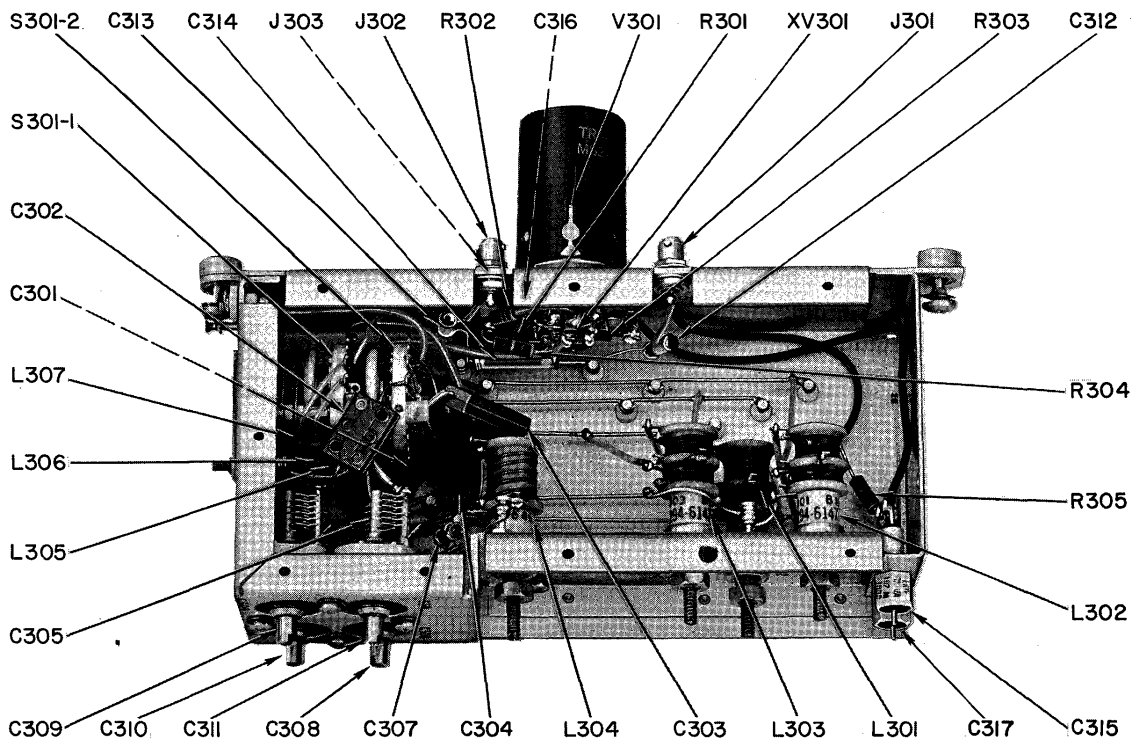

Figure 5-36. High-Frequency Oscillator, Location of Parts
*b.* ACCESS.—The HF oscillator is located in the lower converter deck. Raise the upper deck to reach the top of the oscillator, or tilt the entire converter drawer for access to the bottom of the oscillator section. Figure 5-36 shows the location of parts.
- (1) Seating of tube V301 in its socket
- (2) Cable connections at J301 and J302
- (3) Soldered connections at chassis feed-through terminals.